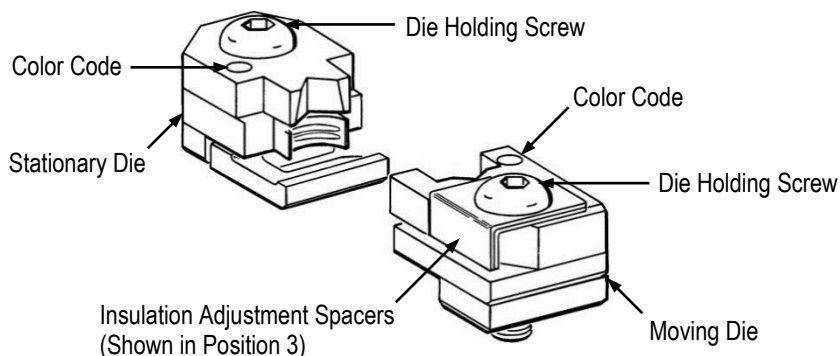

Figure 1
The terminal crimping dies listed in Figure 1 are designed to be used with hand tool 69710-1 to crimp PIDG STRATO-THERM terminals onto wire sizes 24 through 10 AWG. Refer to instruction sheet 408-2095 for information concerning the hand tool. For other compatible tooling, call the number at the bottom of this page.
- Turn both insulation crimp adjustment spacers so that they fit into the notch in the side of the moving die for position 3—loose. See Figure 1.
2. Turn both insulation adjustment spacers of the moving die so that they fit into the notch in the side of the die (position 3—loose). See Figure 1.